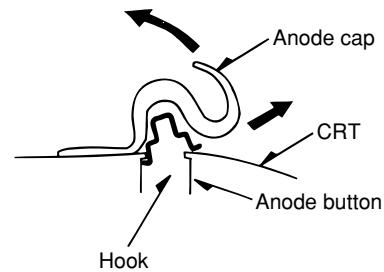

Figure 2-4
(6) Turn over the anode cap on the side where the hook was released and pull out the cap in the direction opposite to that on which the cap was pushed. (See Figure 2-4)